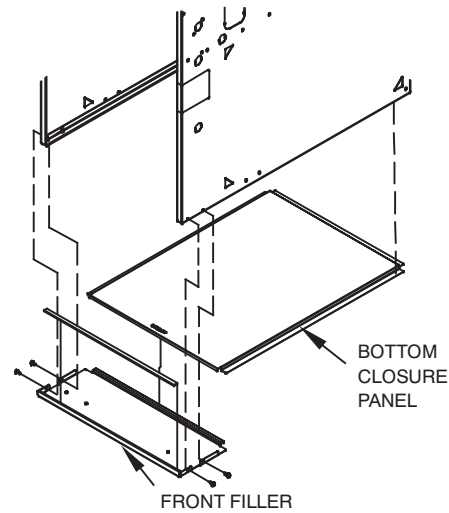

Fig. 4 - Removing Bottom Closure Panel
2. Remove bottom closure panels from both furnaces. (See Fig. 4.)